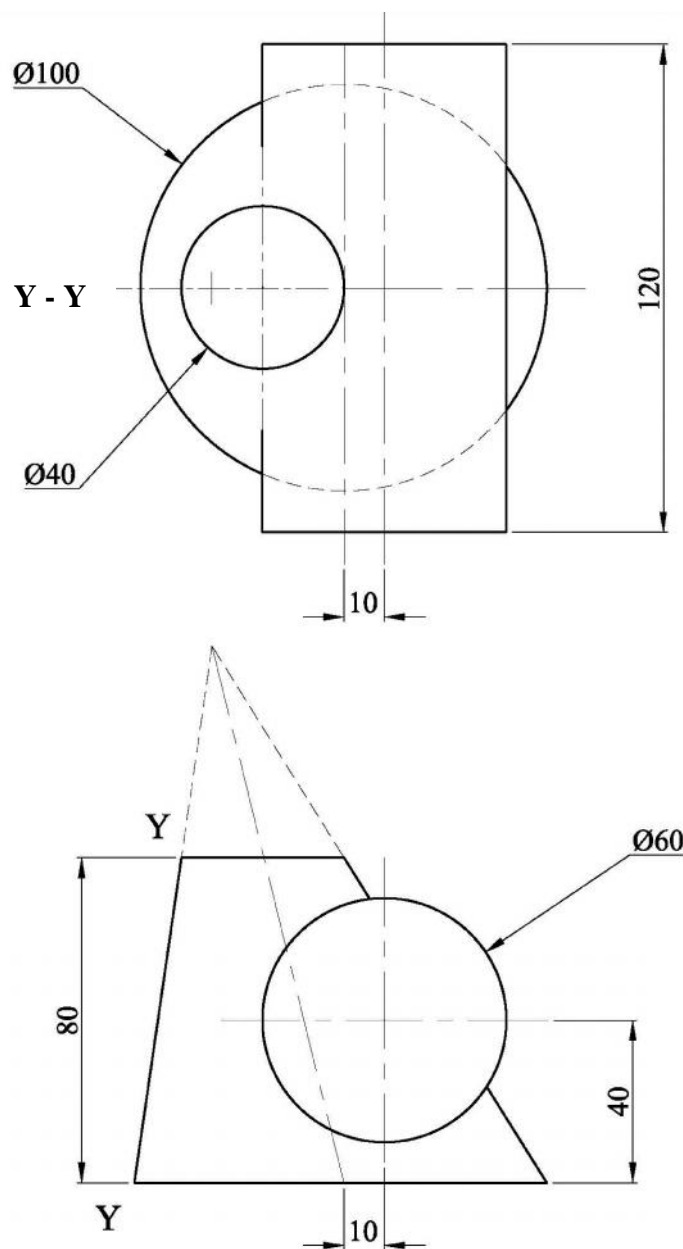

Figure 5b
- a) Copy, full size, the incomplete views shown in Figure 5b.